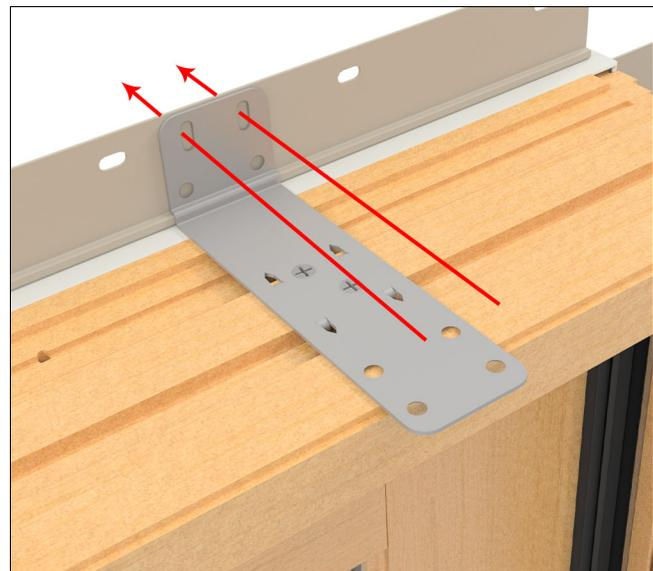

Figure 13
7. From the interior drill through the bracket and the nail fin. This will show you where to fasten the bracket to the RO later. See Figure 13.